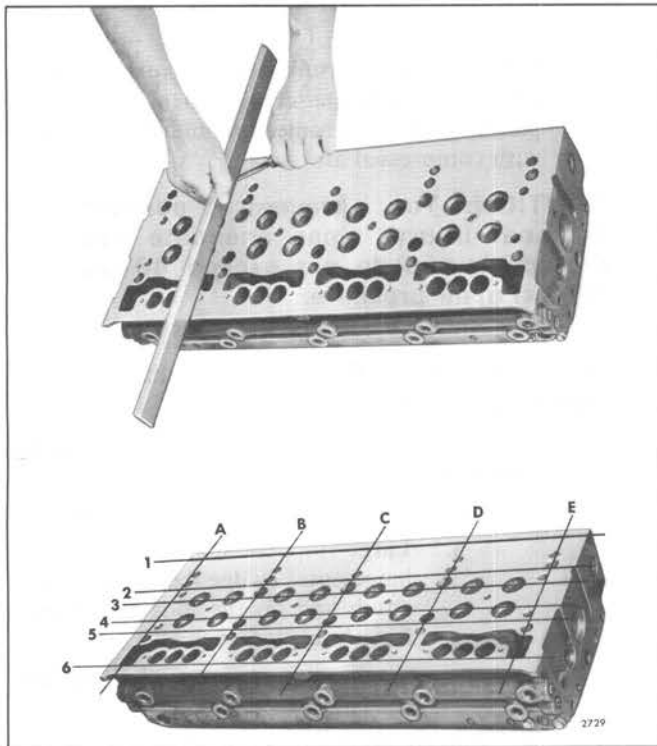

Fig. 8 – Checking Bottom Face of Cylinder Head
- a. Use a heavy, accurate straight-edge and feeler gages, tool J 3172, to check for transverse warpage at each end and between all cylinders. Also, check for longitudinal warpage in six places (Fig. 8). Refer to Table 1 for maximum allowable warpage. Also, look at the fire deck to make sure it is free of pitting caused by excess coolant entering the cylinders.